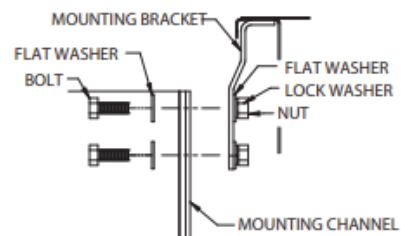

Figure 23 — Mounting Channel Installation
2. Use 3/8" (10mm) flat washers, lock washers and nuts to secure the mounting channel to the bracket, as shown in Figure 23.